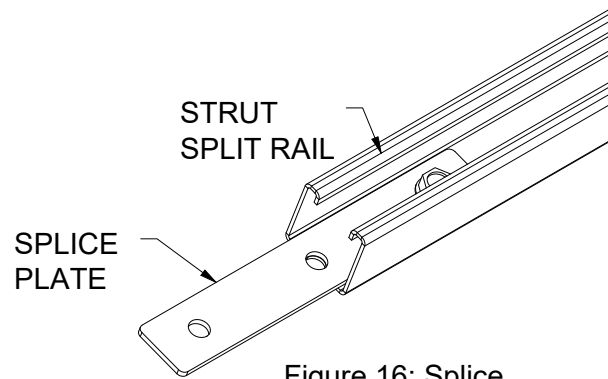

Figure 16: Splice Plate
1. Insert a Splice Plate halfway into one end of the Strut Rail, center the Chassis hole and bolt it with a *single 3/8"-16 x 1" serrated bolt* and *Figure 16* below.